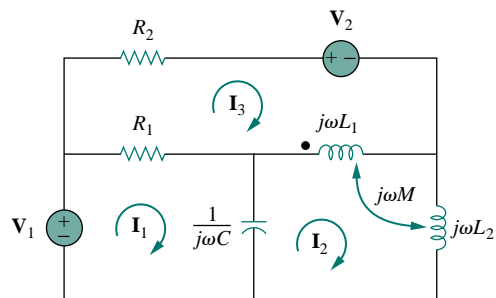

Figure 13.80 For Prob. 13.10.
- 13.10 Obtain the mesh equations for the circuit in Fig. 13.80.